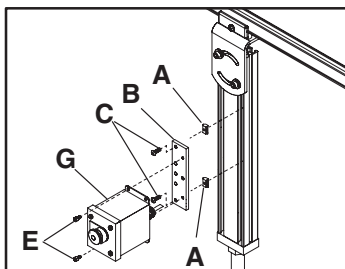

Figure 10
1. Attach Pushbutton Box (Figure 10, item G) to mounting plate (B) with screws (E).
2. Insert two Single Drop-in T-bars (A) into Leg slot.